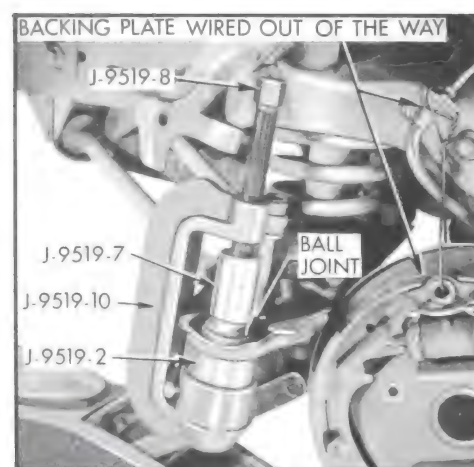

Figure 7-13—Lower Ball Joint Remover Tool in Place
2. Remove the brake backing plate. If the backing plate is wired carefully out of the way as shown in Figure 7-13, there will be no need to disconnect the brake hose.
6. Install Lower Ball Joint Remover and Installer J-9519 as shown in Figure 7-13. Note that the larger O.D. portion of Detail J-9519-2 is positioned in J-9519-10.